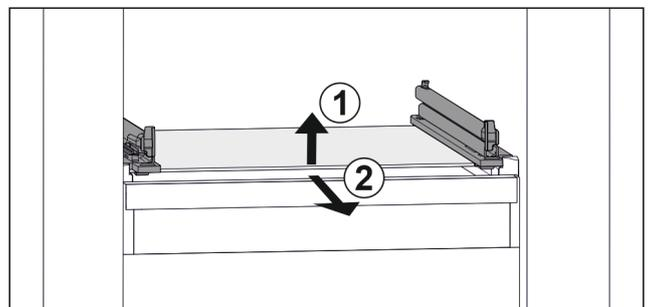

Fig. 100 Example illustration of glass shelf
- ▶ Lift glass shelf at the front. Fig. 100 (1)
- ▶ Take out glass shelf to the front. Fig. 100 (2)